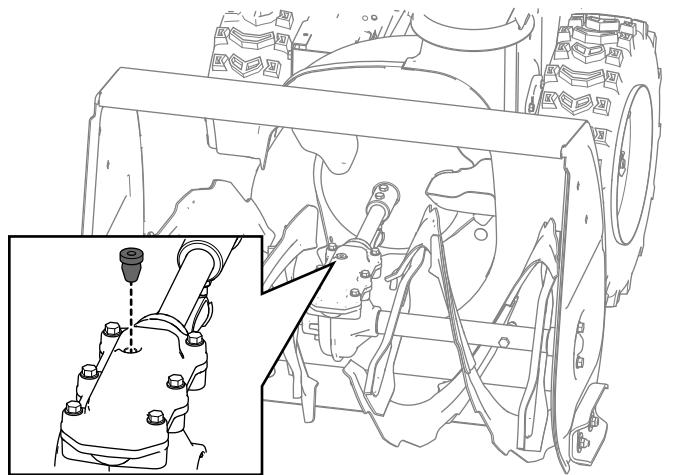

Figure 38
2. Clean the area around the pipe plug and remove the pipe plug from the gearbox (Figure 38).